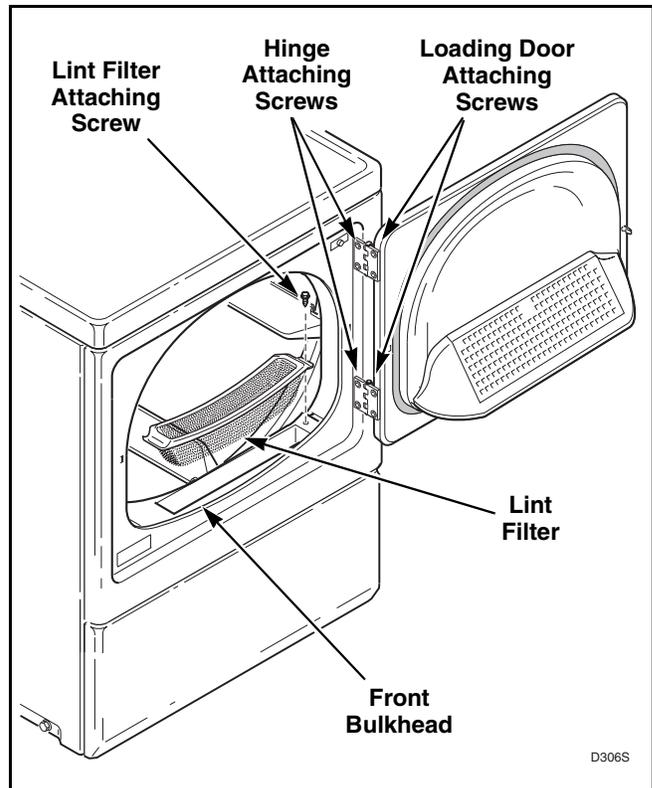

Figure 11
- Open loading door and remove screw from end of lint filter. Refer to *Figure 11*.
- Remove screws holding loading door to hinges. Refer to *Figure 11*.
- Remove four screws holding door assembly to hinges. Refer to *Figure 11*.